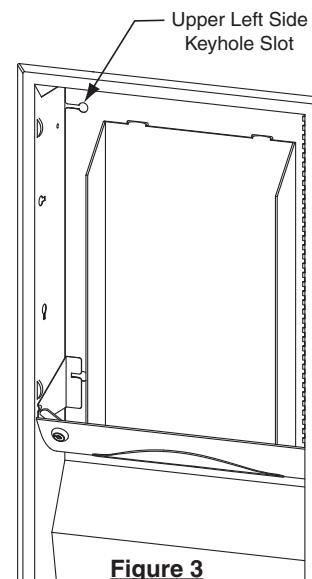

Figure 3
2. Insert one set of mounting hardware, the 3961-25 Carriage Bolt with the 3961-24 Washer Lock Nut, into the round portion of the upper left side keyhole slot with the head of the 3961-25 Carriage Bolt going in first. Position the square shoulder of the 3961-25 Carriage Bolt so that it is parallel with the straight sides of the keyhole slot and slide the entire assembly as far over as it will go. The square shoulder of the 3961-25 Carriage Bolt should be in contact with the end of the rectangular slot in the flange to ensure proper seating of the mounting hardware. (See Figures 3 & 4).